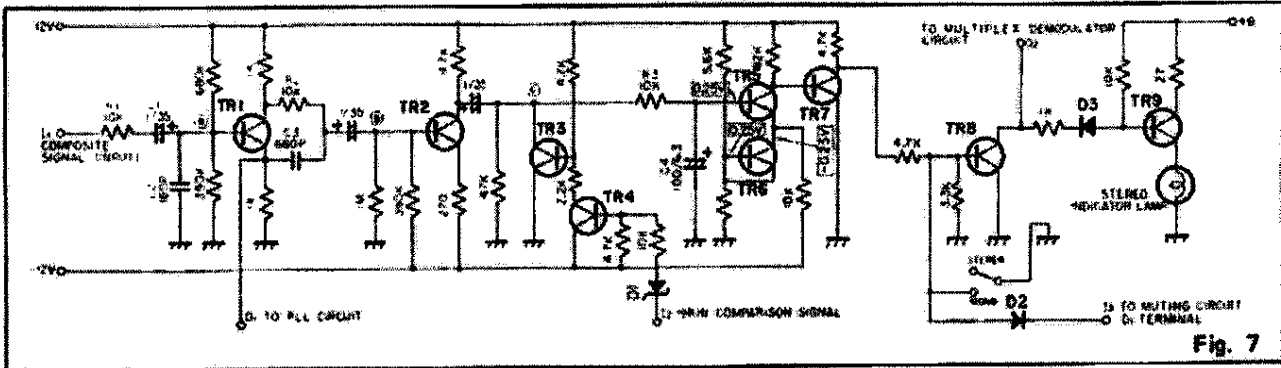

Fig. 7
2. At the same time, the PLL circuit D terminal output (7) enters via I2 and the phase detector Tr3 is operated by Tr4.
3. Using the phase difference between the pilot signal and signal, Fig. 7 to see the potential at point © (i.e., the phase detector output, the following points become clear. See chart 14.